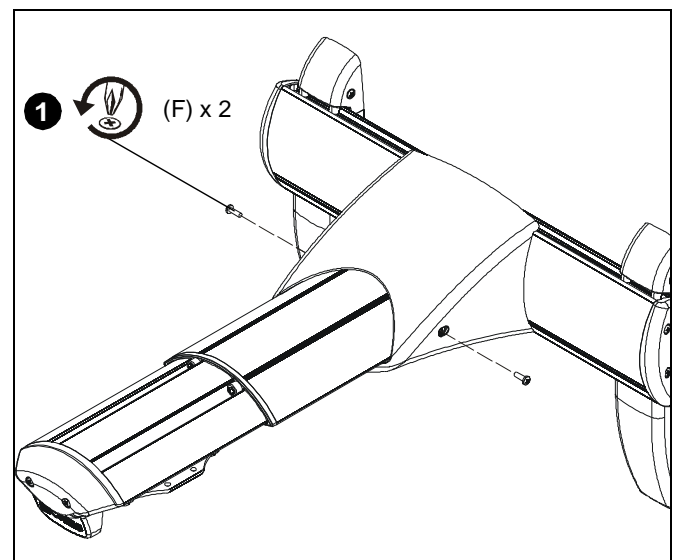

Figure 33
1. Remove two #8-32 x 1/2" Phillips pan machine screws (F) to free outer cover from mounting bracket. (See Figure 33)